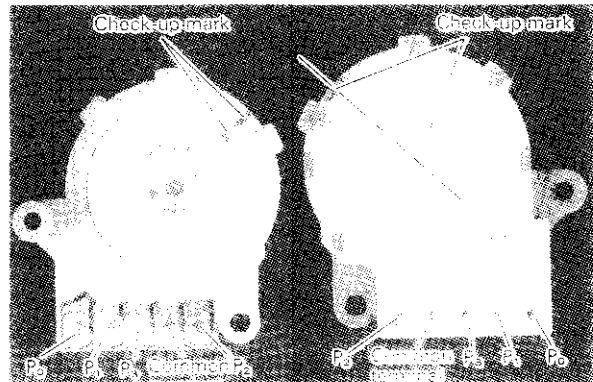

Fig. 3-22-9
- (1) Match the check-up mark of the mode switch. (See Fig. 3-22-9).
- (2) Perform fine adjustment by turning the gear of the mode switch to the following conducting state between the common terminal of the mode switch and each terminal while checking with a tester.